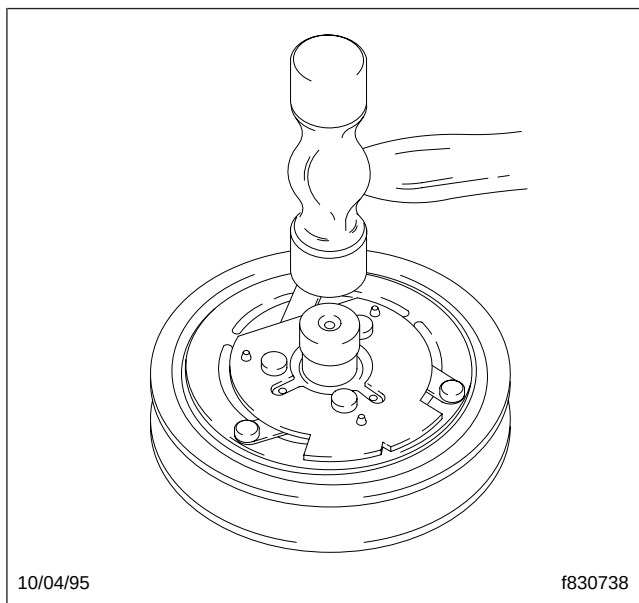

Fig. 10, Installing the Drive Plate Assembly
- 3.3 Align the keyway in the drive plate assembly with the shaft key. Using a driver, and a hammer or an arbor press, drive the assembly down over the shaft until it bottoms on the shims. See Fig. 10.